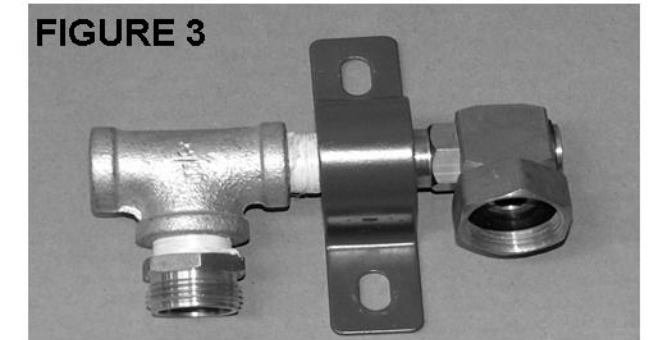

FIGURE 3
3. Insert the brass swivel (H) through the remaining U-bushing (P) and screw the end of the swivel into the galvanized tee (I). See Figure 3. Using a wrench, tighten the swivel into the galvanized tee. Tighten securely but do not over tighten. Over tightening the swivel could cause leakage.